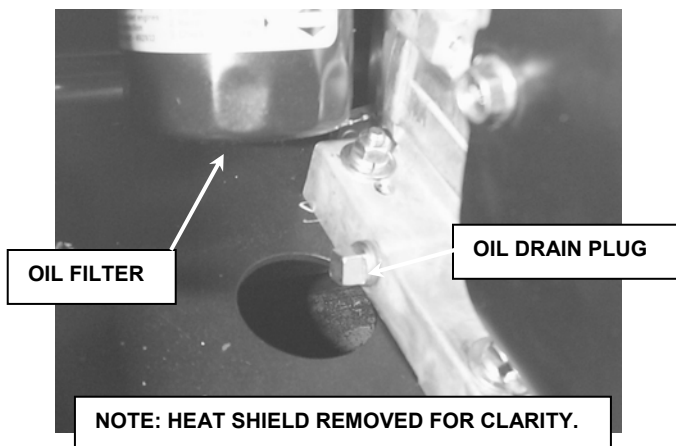

FIGURE 3.1
2. Locate oil drain plug on engine at bottom front center of crankcase. See Figure 3.1.